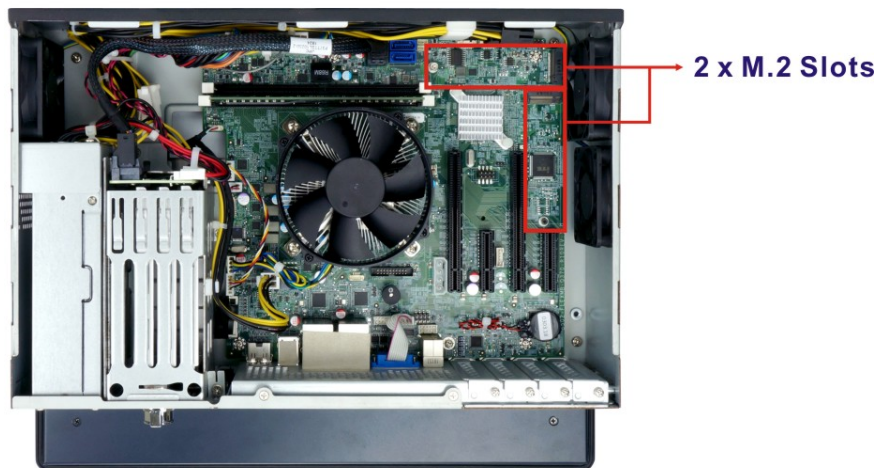

Figure 3-9: M.2 Slot Locations
- Step 2:** Locate the M.2 slot as shown in **Figure 3-9**.